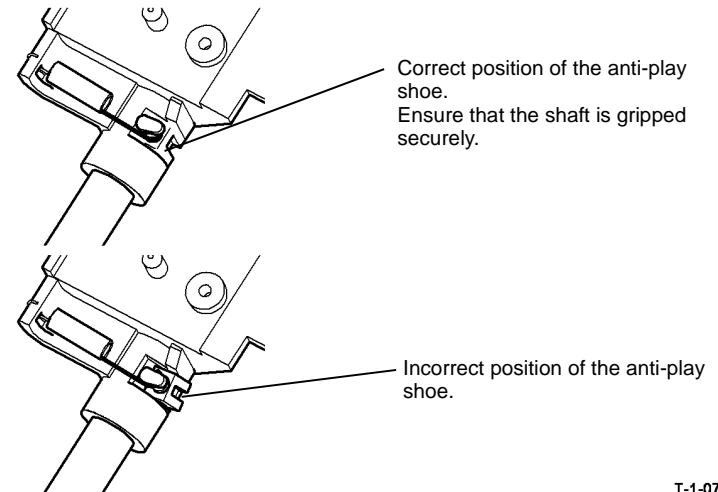

Figure 6 Location of the anti-play shoe
- When installing the shaft ensure that the anti-play shoe has not moved out of position, Figure 6.